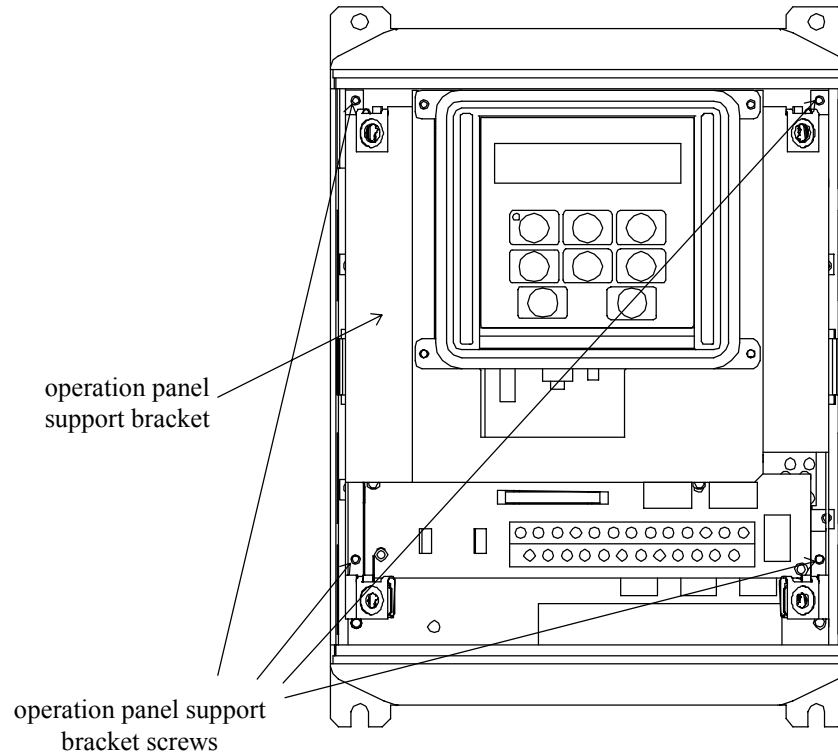

Figure 3: G3 with front cover removed
4. Loosen the 4 screws attaching the G3's operation panel support bracket to the control board support bracket and remove the operation panel and support bracket as a unit (refer to Figure 3).